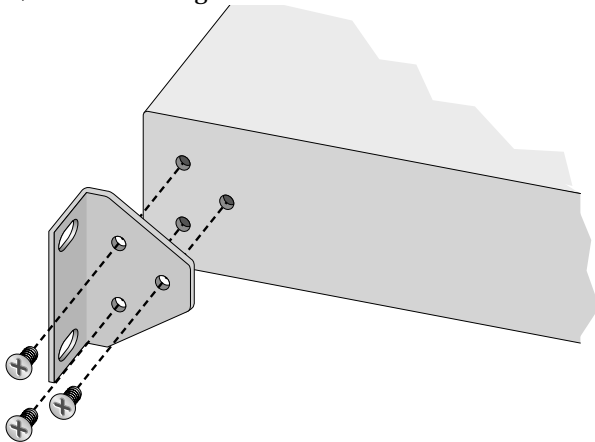

Figure 8 Installing the Mounting Bracket
5. Insert the three screws provided with the unit and tighten with a suitable screwdriver, as shown in Figure 8.